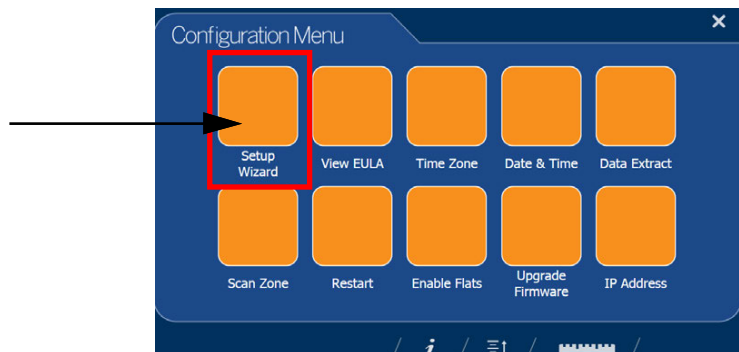

Figure 2-2. Configuration Menu
1. Select **Time & Date** Figure 2-2 on page 10.